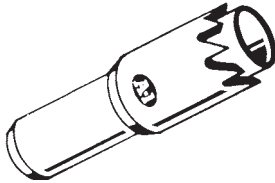

Figure 2.28 A tubular key lock saw is used to drill through the tumblers of tubular key locks. (A-1 Security Manufacturing Corp.)
- Tubular-key lock saw (Fig. 2.28)